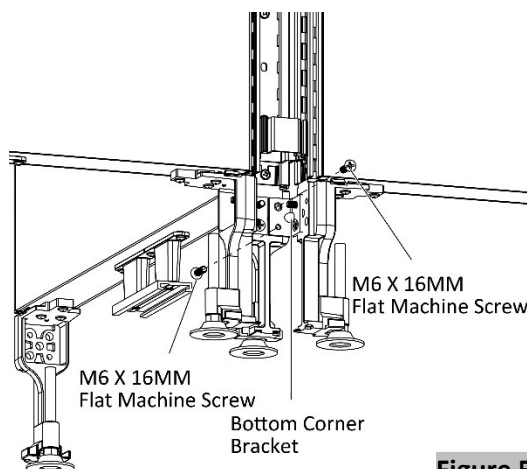

Figure 5
10. Secure the base with two M6 X 16MM Flat Machine Screws, (Figure 5).